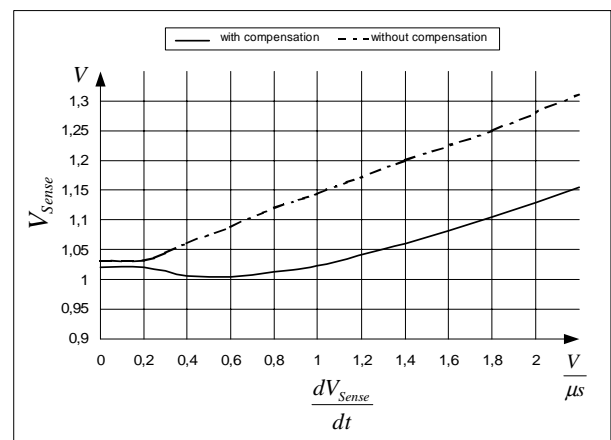

Figure 16 Overcurrent Shutdown
So current limiting is now capable in a very accurate way (see Figure 16).
E.g.  $I_{peak} = 0.5A$  with  $R_{Sense} = 2$ . Without propagation delay compensation the current sense threshold is set to a static voltage level  $V_{csth} = 1V$ . A current ramp of  $dI/dt = 0.4A/\mu s$ , that means  $dV_{Sense}/dt = 0.8V/\mu s$ , and a propagation delay time of i.e.  $t_{Propagation Delay} = 180ns$  leads then to a  $I_{peak}$  overshoot of 12%. By means of propagation delay compensation the overshoot is only about 2% (see Figure 16).